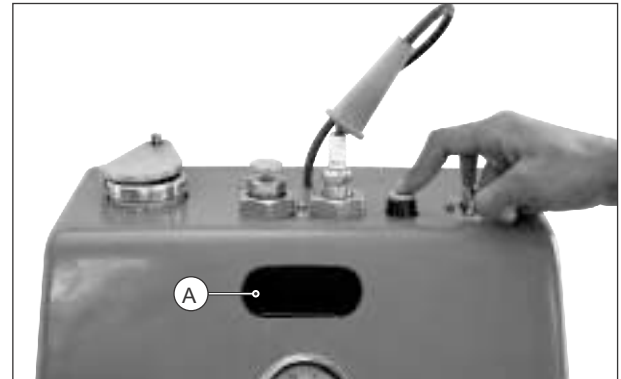

Fig. 2.39
- Now, press the spark testing button of the machine and look for strong, blue continuous spark through the window (A) of the machine. (Fig. 2.39)